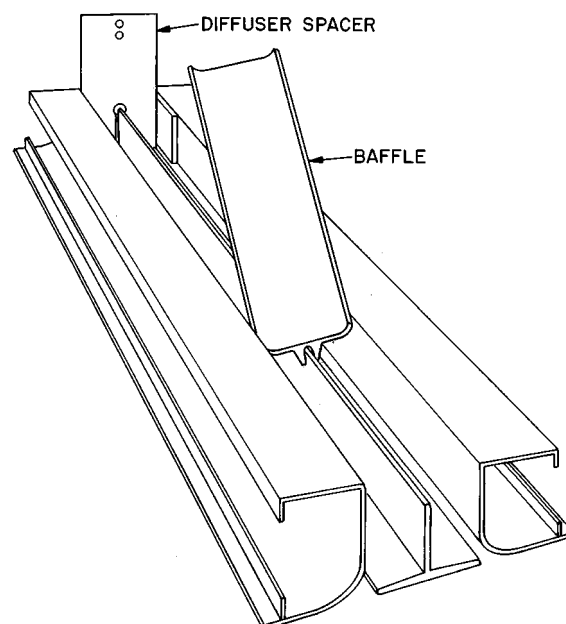

Fig. 5 — Diffuser Baffle Assembly
3. Push the diffuser baffle into the space between side diffusers and down onto the center diffuser at the end away from the unit. Then push down the end close to the unit. The baffle will form around the legs of the diffuser spacer and lock onto the center diffuser. See Fig. 5.